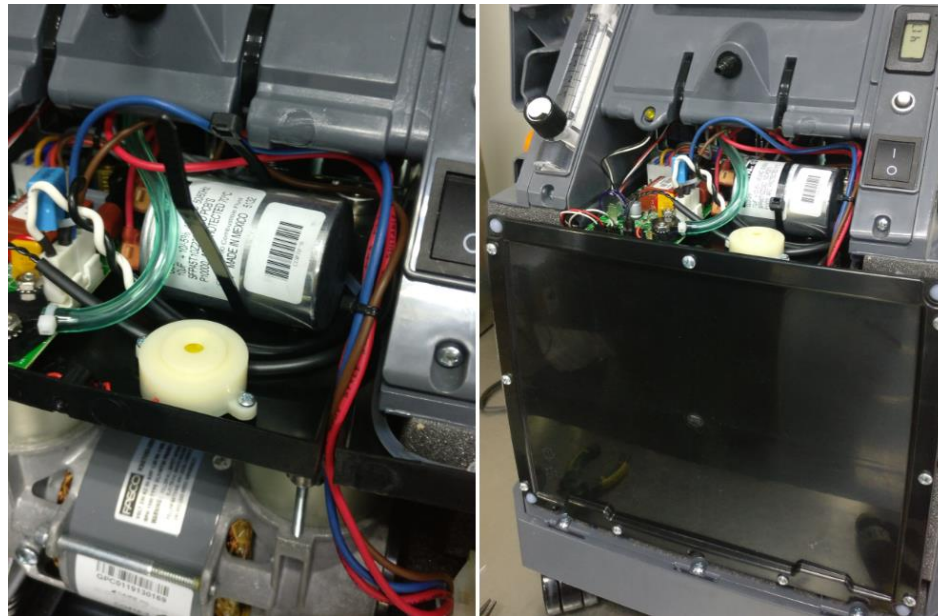

Figure 5
6. Remove the compressor enclosure cover and re-secure the capacitor with cable tie TW017-1. Then re-install the compressor enclosure cover and push the compressor enclosure back all the way into the center section. See figure 5.